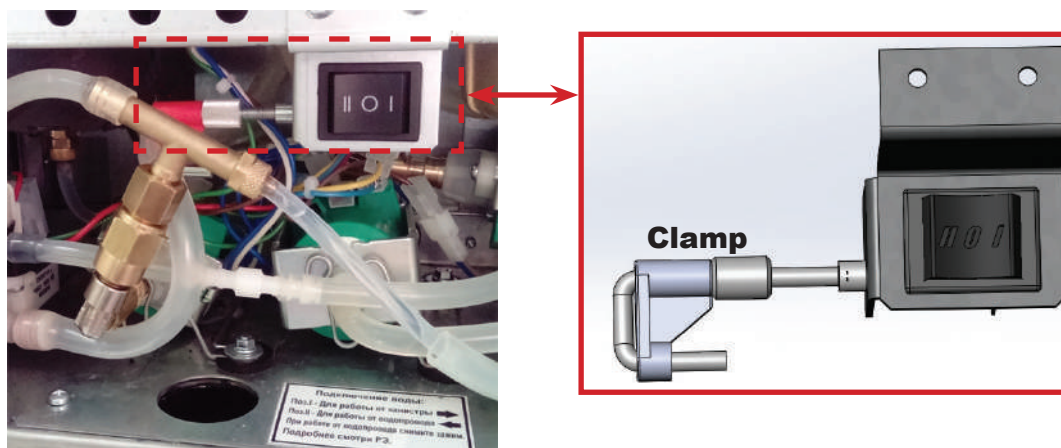

Fig.4.15
- Remove the clamp from the silicone tube (see fig. 4.15);
- Turn the switch to the “II” position (see fig. 4.15);
1. In item 1 select the setting **(Installed)**;
2. In item 5 put the clamp back on the tube (see fig. 4.15);
3. In item 6 turn the switch to the “I” position (see fig. 4.15).